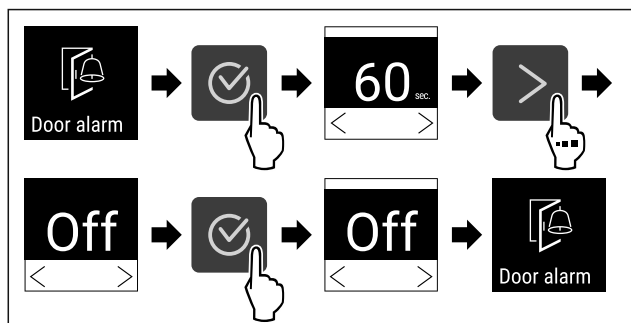

Fig. 118
- ▶ Carry out steps (see Fig. 118) .